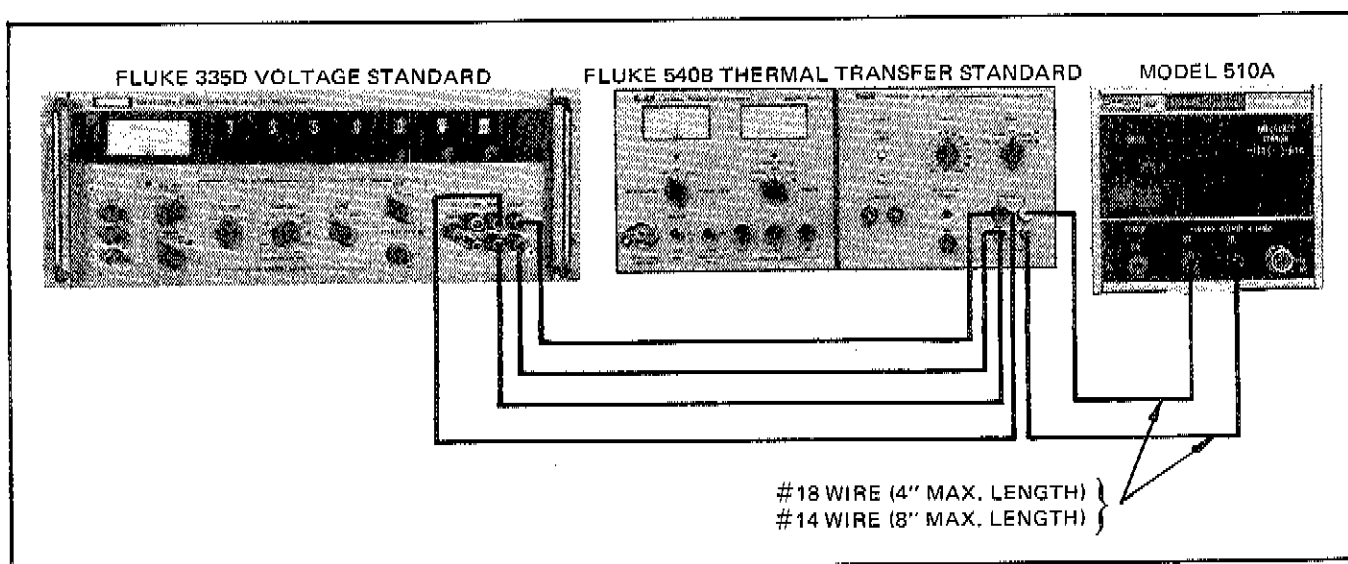

Figure 4-7. THERMAL TRANSFER EQUIPMENT CONNECTIONS
- Make the equipment connections shown in Figure 4-7.